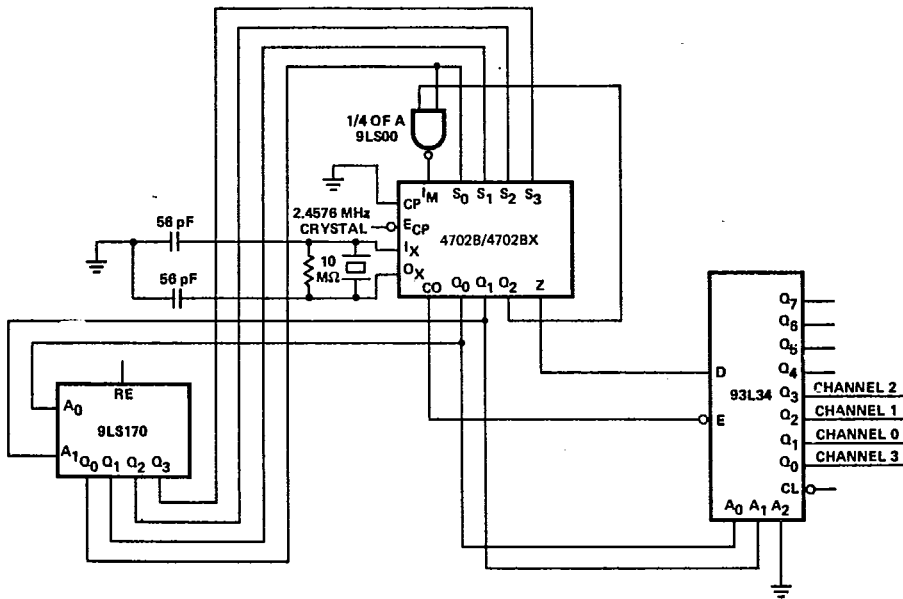

Fig. 4
**19200 Baud Operation** — Though a 19200 Baud signal is not internally routed to the multiplexer, the 4702B/4702BX can be used to generate this bit rate by connecting the Q2 output to the IM input and applying select code 0 or 1. An additional 2-input NAND gate can be used to retain the "Zero Baud" feature on select code 0. Any multichannel operation that involves 19200 Baud must be limited to four outputs as shown in Figure 4. Only the two least significant Scan Counter outputs are used, so that the scan is completed within one half period of the 19200 output frequency.